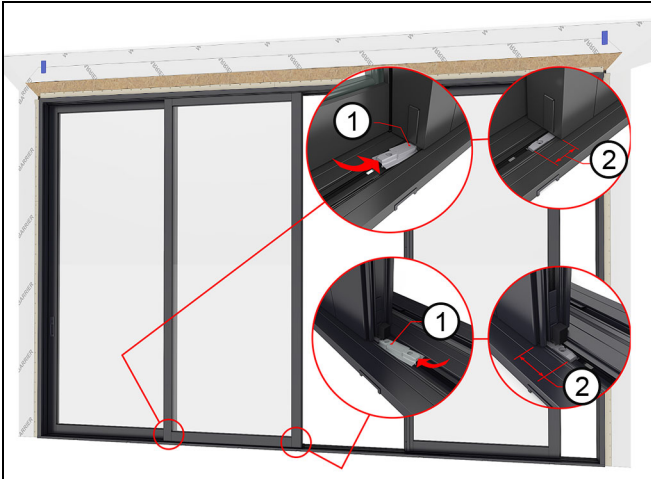
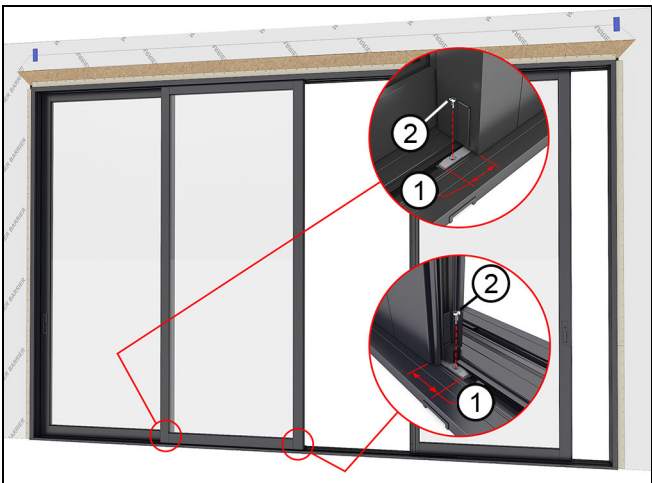

Figure 167 XOOX
Figure 168 XOOX
10. On both sides of the (J) panel, snap the lower stationary brackets onto sill, then slide underneath the stationary panel until fully seated. Each bracket should stick out approximately 2 ¼" (57) from panel when fully seated. Fasten the brackets with #8 x 1/2" self drilling screws. See Figure 167 and Figure 168.